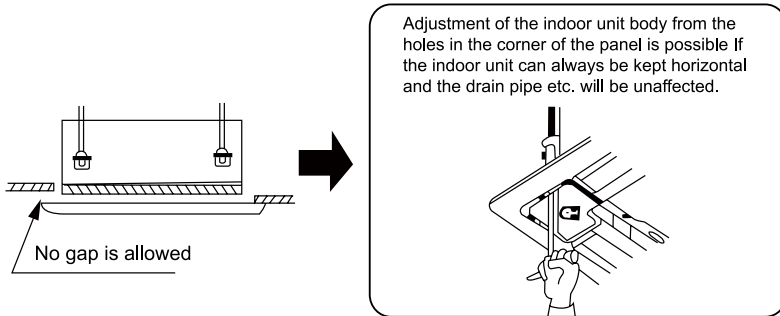

Fig.33
- (3). If gap still exists between ceiling and decoration panel after tightening the screws, readjust the height of the indoor unit. (Fig.33)